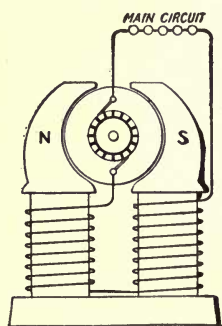

FIG. 85.—Series-Wound Dynamo.
**234. Series Machine.**—A series machine (Fig. 85) is a dynamo which allows all the current produced to pass through the field magnet coils by taking the wire from one brush and carrying it the required number of times around the field magnet, and then connecting